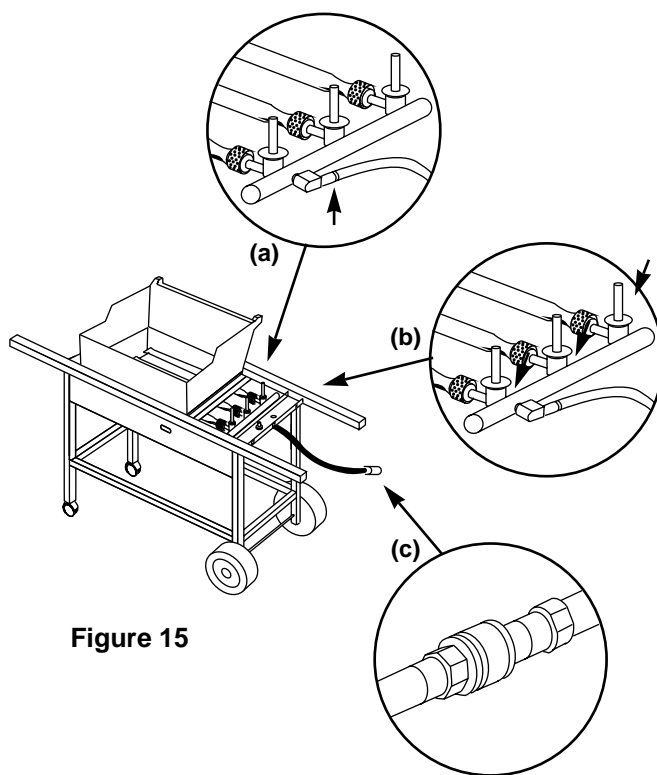

Figure 15
a) Hose to manifold connection. Figure 15 (a).
b) Valves to manifold connections. Figure 15 (b).
c) Hose to quick disconnect connection. Figure 15 (c).